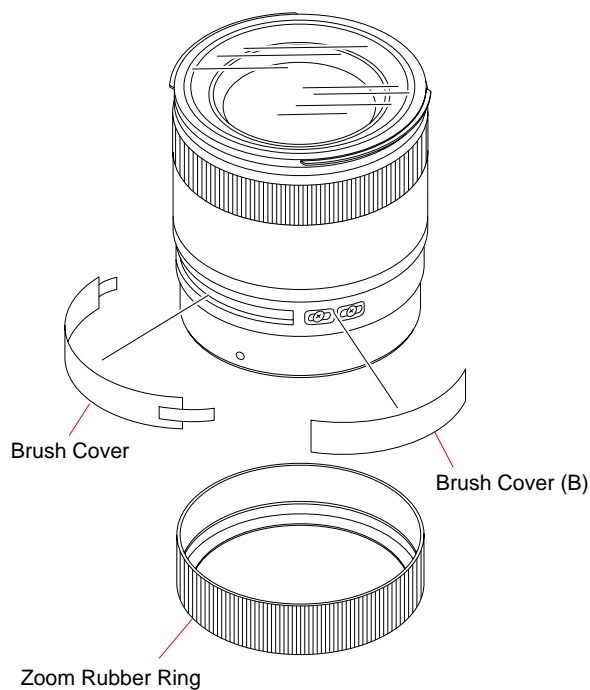

Fig.4-5-1
- 1) Remove parts indicated in Fig.4-5-1 from the lens unit